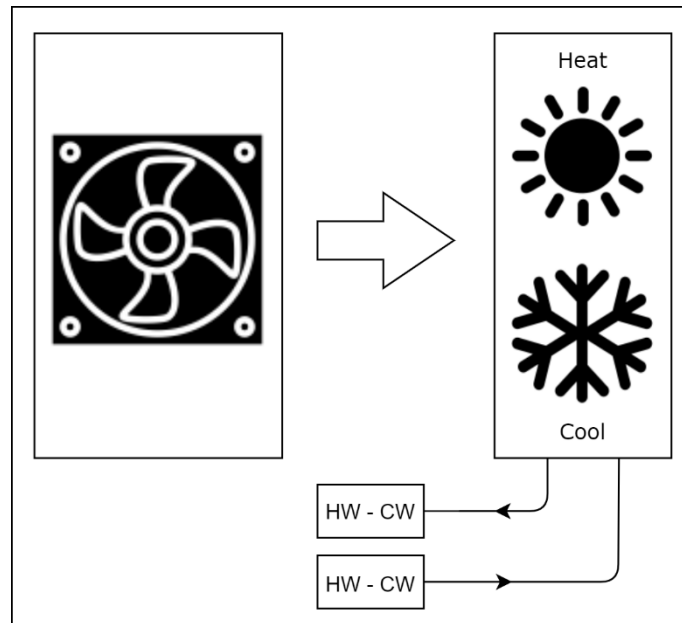

Figure 14 2 pipes fan coil system
The 4 pipe system consists of two separate cold water(CW) and hot water(HW) sources. Each source has its own set of pipes and valves for supply and return. The operation of 4 pipes system is demonstrated in Figure 14.